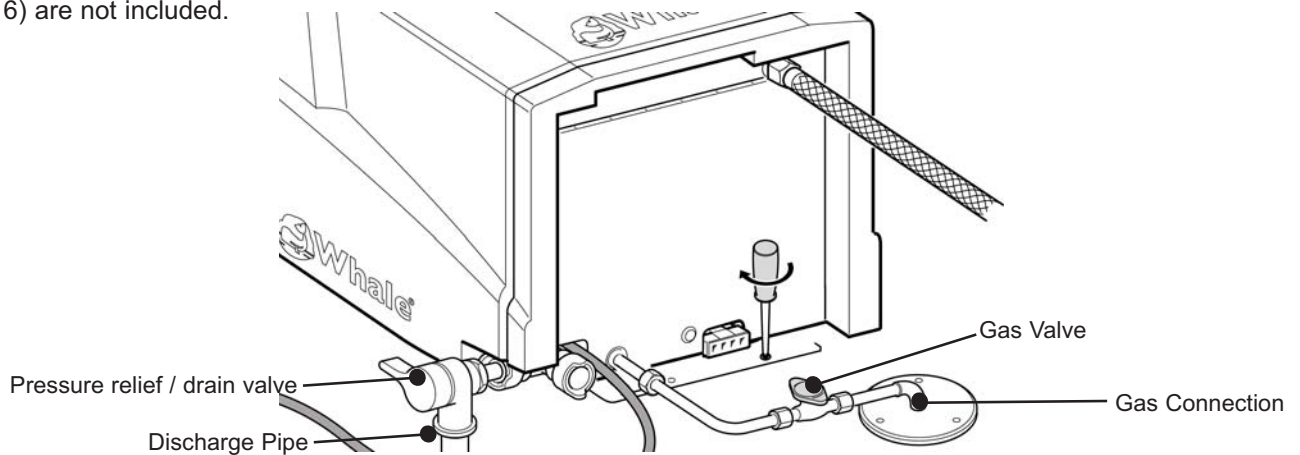

Fig. 16 Connect to Gas Supply
Step 8 Connect to Gas Supply (see Fig. 16)
Ventilation **must** comply with relevant local requirements e.g. EN 721. Please note: Valve and connection (shown in Fig. 16) are not included.